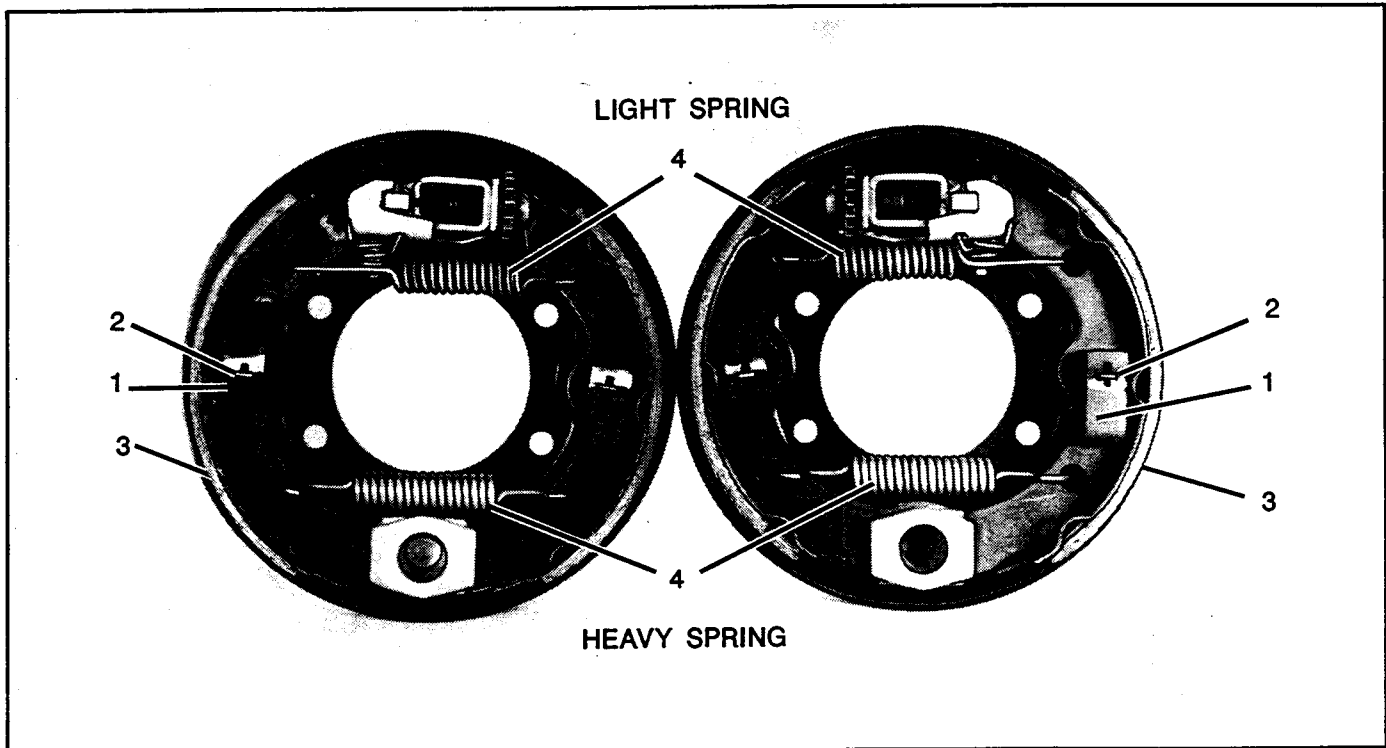

FIG. G-6 WHEEL BRAKES DRIVER'S AND PASSENGER SIDE
**BRAKE DRUM, SHOE AND BRAKE ASSEMBLY REMOVAL** (Fig. G-6 and G-7)
**REPLACING BRAKE SHOES (Figs. G-6 and G-7)**